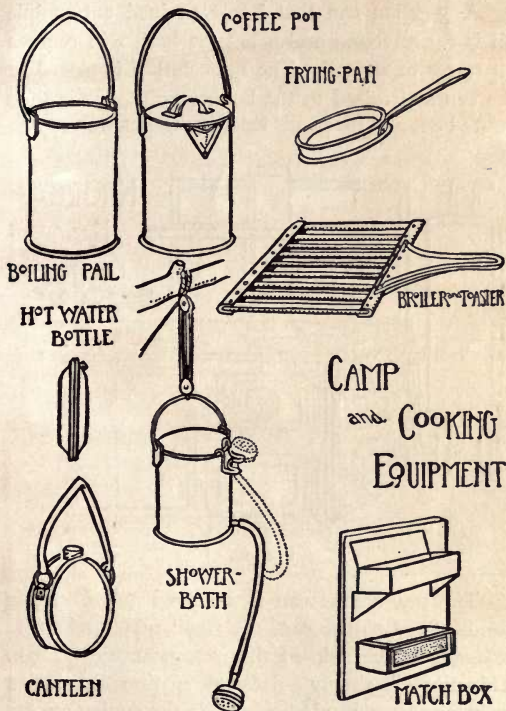

FIG. 95.
**Toaster.**—A toaster or broiler may be made from folded strips of tin which are strongly riveted together as shown in Fig. 95. Be sure to put two rivets in each corner of the toaster.